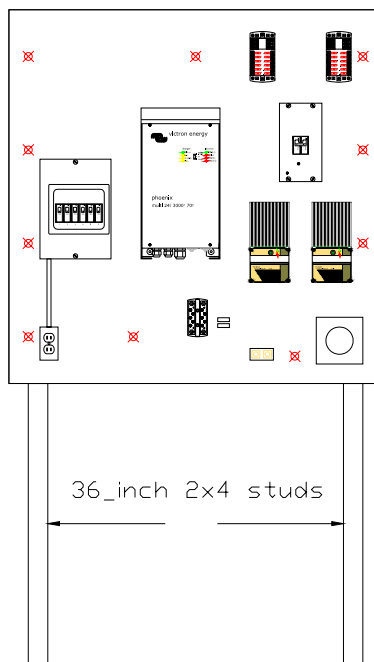

Figure 3.3: Control Module Mounting.
- B. Mount the Control Module to the wall by installing ~10 Tapcons through the Control Module's 4x4 plywood mounting board to the brick wall. Figure 3-3 shows 10 red circled X's for ideal Tapcon locations. It will be easiest to install module in a three-step process. One; drill the first hole and then install the first Tapcon in the bottom-left, two; drill the second hole and then install the second Tapcon in the top-right, third: drill all the remaining holes and then install all the remaining Tapcons.
Step 1: Place the 36_inch (0.9_m) 2x4 studs on the floor against the wall, see figure 3.3.